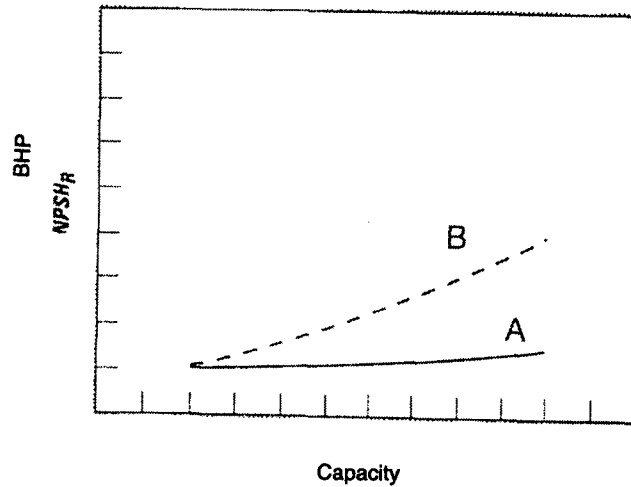

Figure 702.7.1 Capacity Vs. Horsepower Curve
702.6 Comparing the field horsepower vs. flow to the corresponding data from the supplier will help evaluate major discrepancies that may exist in the pump’s performance. Measured results will have to be adjusted to compensate for site condition, specific gravity and viscosity before making this comparison. The flat curve (A) in Figure 702.7.1 represented by the solid line would not permit such determination. Other methods would have to be used. The curve with dotted line (B) represents a very steep horsepower curve and would lend itself to indirect flow determination.